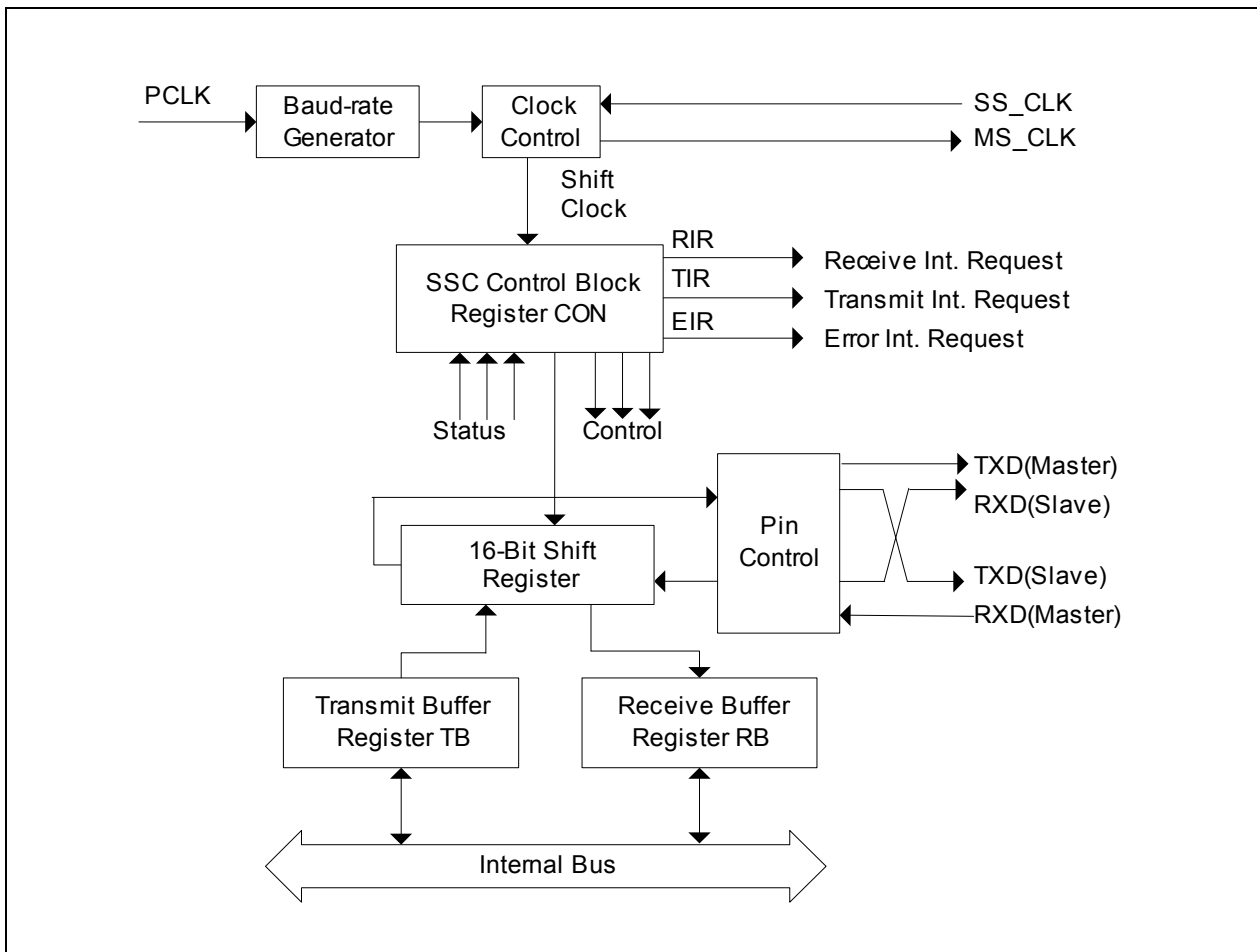

**Figure 28 SSC Block Diagram**
**Figure 28** shows the block diagram of the SSC.